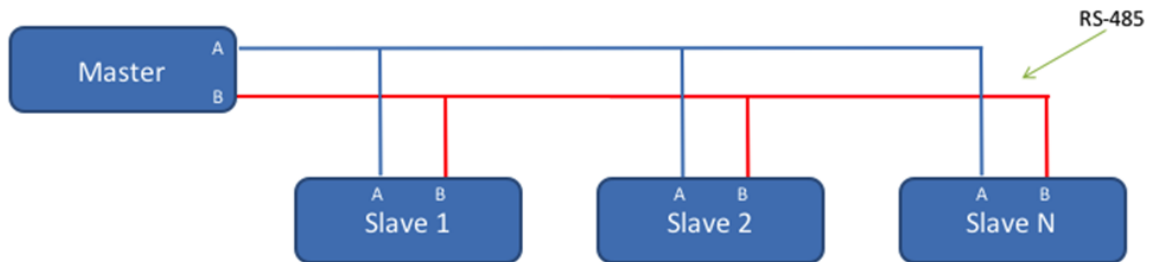

Fig. 7. Master and slave configuration.
- Inputs A and B in figure 7 may be labelled in some other manner on equipment that are not IMx devices. If the connection does not work, try reversing the cable.